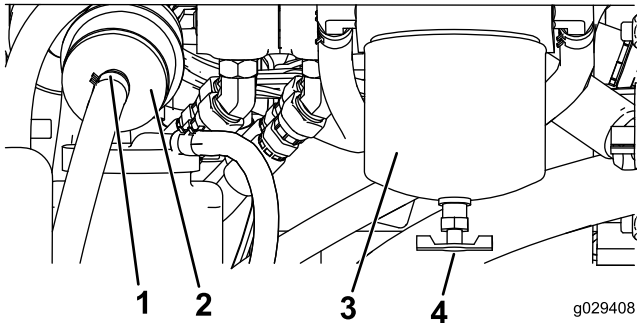

Figure 48
1. Locate the fuel filter on the rear side of the engine (Figure 48) and place a clean container under it.
1. Locate the fuel filters on the right side of the engine (Figure 48) and place a clean container under it.
2. Clean the area where the filter canister mounts (Figure 48).
3. Remove the filter canister and clean the mounting surface (Figure 48).
5. Install the filter canister by hand until the gasket contacts the mounting surface, then rotate it an additional 1/2 turn (Figure 48).
6. Locate the in-line filter behind the fuel filter canister (Figure 48) and note the direction of flow arrow on the side of the in-line filter.
7. Open the clamps on each end of the in-line filter and slide the hoses off it (Figure 48). Discard the filter.
8. Slide the hoses over the end of a new filter (Figure 48), ensuring that the arrow on the filter is pointing in the same direction as the one on the old filter.